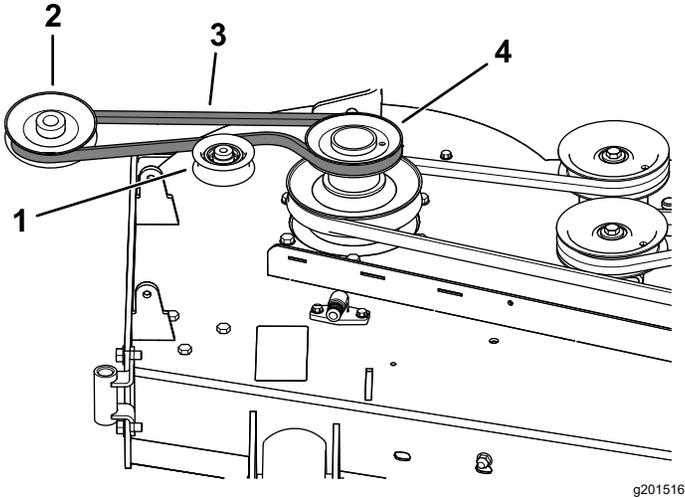
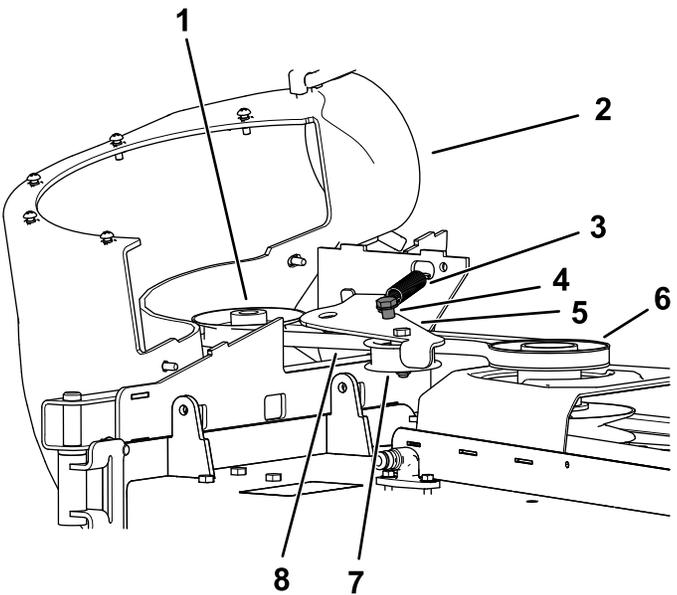

Figure 15
Figure 16
1. If necessary, install the belt onto the blower pulley (Figure 15).
1. Install the belt around the blower pulley (Figure 15 and Figure 16); refer to 6 Installing the Blower Assembly (page 13).
3. Pull the spring loaded idler pulley away from the fixed spring post, and route the belt around the mower deck pulley (Figure 16).
4. Route the belt around the drive pulley as illustrated in Figure 15 and Figure 16.